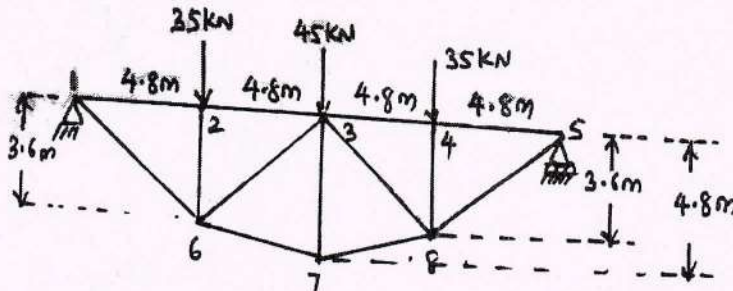

Fig Q2 (16 Marks)
- 2 Determine forces in all the members of the truss shown in Fig Q2 using method of joints.